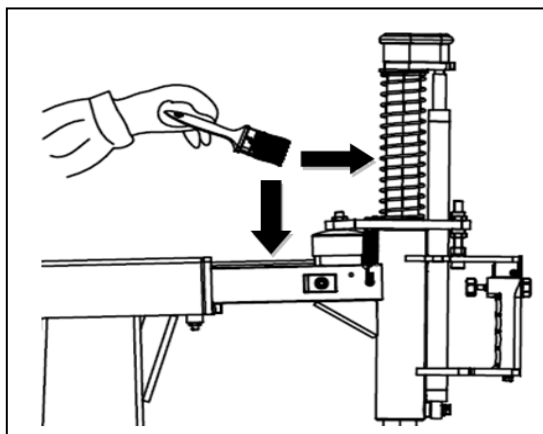

FIG20
- ✧ Use the diesel oil to wash the hexangular shaft and quadrichorizontal arm (Fig20).